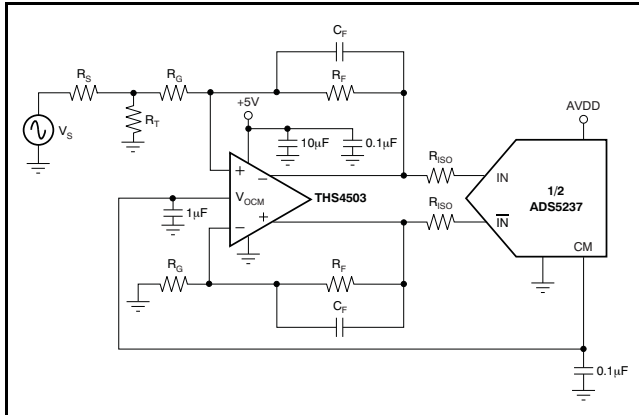

Figure 19. Using the THS4503 with the ADS5237
Applications that have a requirement for DC-coupling a differential amplifier, such as the THS4503, can be used to drive the ADS5237; this design is shown in Figure 19. The THS4503 amplifier easily allows a single-ended to differential conversion, which reduces component cost.
In addition, the V_{OCM} pin on the THS4503 can be directly tied to the common-mode pin (CM) of the ADS5237 to set up the necessary bias voltage for the converter inputs. In the circuit example shown in Figure 19, the THS4503 is configured for unity gain. If required, a higher gain can easily be achieved as well by adding small capacitors (such as 10pF) in parallel with the feedback resistors to create a low-pass filter. Because the THS4503 is driving a capacitive load, small series resistors in the output ensure stable operation. Further details of this design and the overall operation of the THS4503 may be found in its product data sheet (available for download at www.ti.com). In general, differential amplifiers provide a high-performance driver solution for baseband applications, and other differential amplifier models may be selected depending on the system requirements.